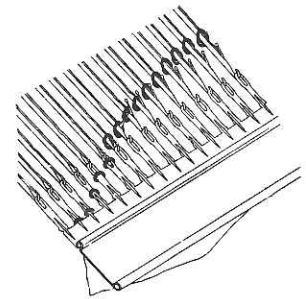

Fig. 2
4. Transfer the stitches from the machine to the Garter attachment by pulling the stitches forward with your fingertips. It is very important that you transfer the stitches beyond the butts (the projected parts on the sides of the garter needles). Arrange the stitches in a straight line on the bar. The only time you need not go beyond the butts of the Garter needles is when you are using very fine lace yarns. (Figure 2).